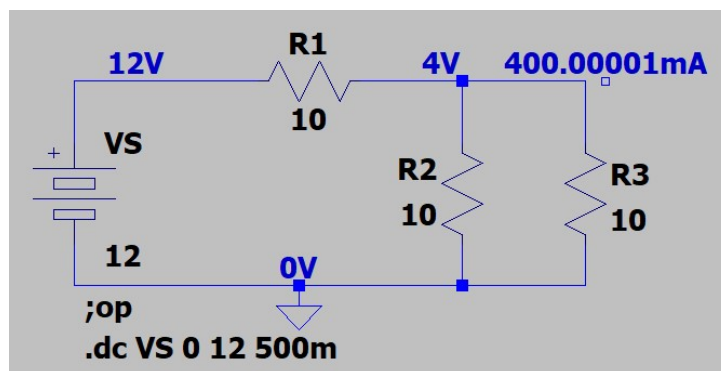

Figure 46: LTspice schematic with DC sweep simulation command.
3. Click *OK* to close the *Edit Simulation Command* window. You can then place the simulation command text anywhere on the schematic. Your schematic should look like Figure 46.